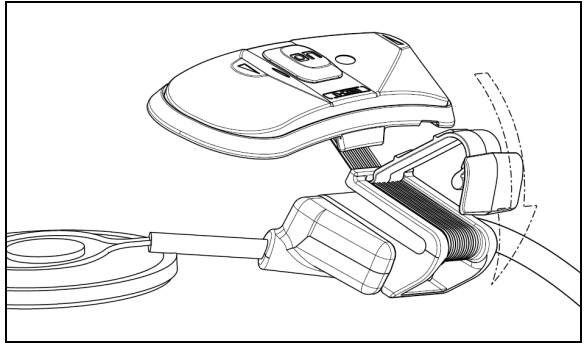

Fig. 5
- Position the plastic Ferma-flex clip as shown in figure 5